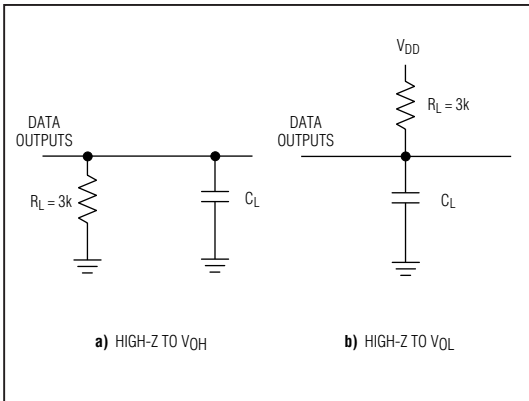

図1. データアクセス時間テスト用の負荷回路
**Note 5:** See Figure 1 for load circuit. Parameter defined as the time required for the output to cross 0.66V or 2.0V.